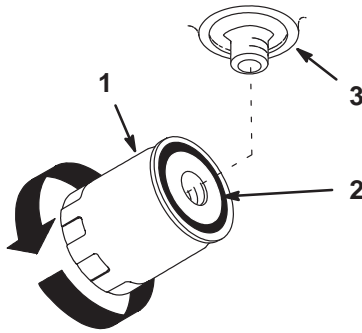

Figure 46
4. Locate filter under engine base and place drain pan under filter (Fig. 46).
5. Remove the old filter and wipe the filter adapter gasket surface clean (Fig. 46).
9. When fluid overflows filter turn the oil filter clockwise until the rubber gasket contacts the filter adapter, then tighten the filter an additional 1/2 turn (Fig. 46).